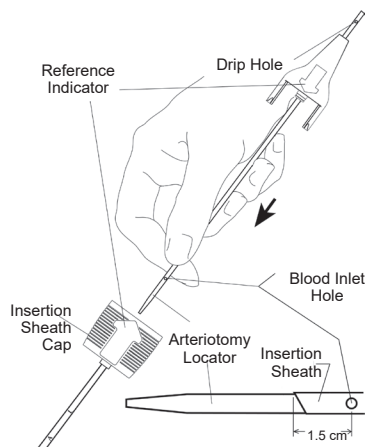

Fig. 1
3. Insert the arteriotomy locator into the Angio-Seal™ insertion sheath (Figure 1), making sure the two pieces snap together securely. To ensure proper orientation of the arteriotomy locator with the sheath, the hub of the locator and the sheath cap fit together only in the correct position. The reference indicator on the locator hub must align with the reference indicator on the sheath cap.